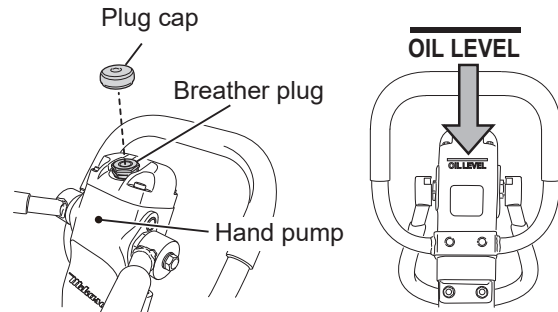

Fig.9-9
Check the hydraulic oil at every 100 hours' operation. By making the handle bar vertical (done at the time of storage), remove the breather plug at the top of the hydraulic hand pump to see if the hydraulic oil is at the specified level (OIL LEVEL). (Fig. 9-9)
- 1 Remove the plug cap of the hand pump. Then remove the breather plug (with 24mm wrench) before removing the hydraulic hose connected to the cylinder on the vibrator side. Set the control lever to forward, then drain the hydraulic oil from the pump. (Fig.9-9, 10)
- 3 Pour hydraulic oil (300cc) from the hand pump breather plug attachment hole. (Fig.9-9)